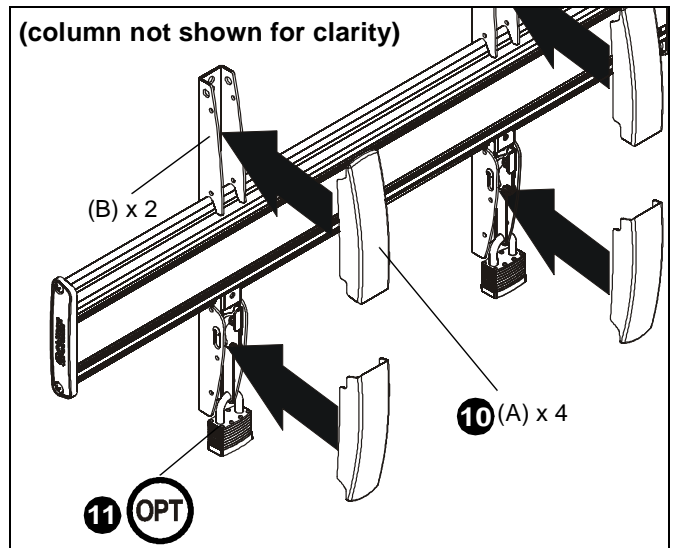

Figure 7
10. Snap four upright covers (A) onto uprights. (See Figure 7)
- NOTE:** Tabs on inside of covers (A) will snap directly into holes on uprights to ensure a secure connection.
11. (Optional) Use padlocks (not provided) to secure uprights to head assembly. (See Figure 7)